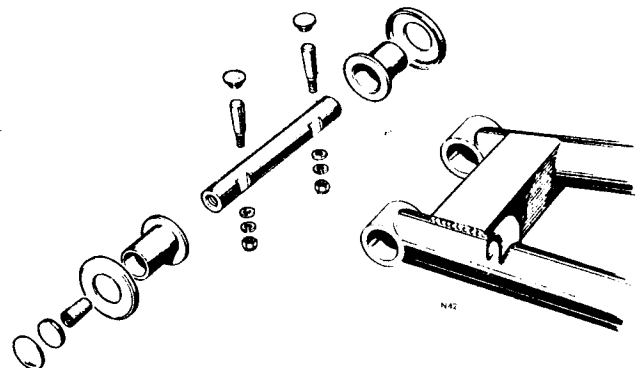

Fig. F18 Swinging arm bushes showing order of assembly
- 4 Place the bonded sealing washer over the bush as in Fig. F18 and press the bush in fully.